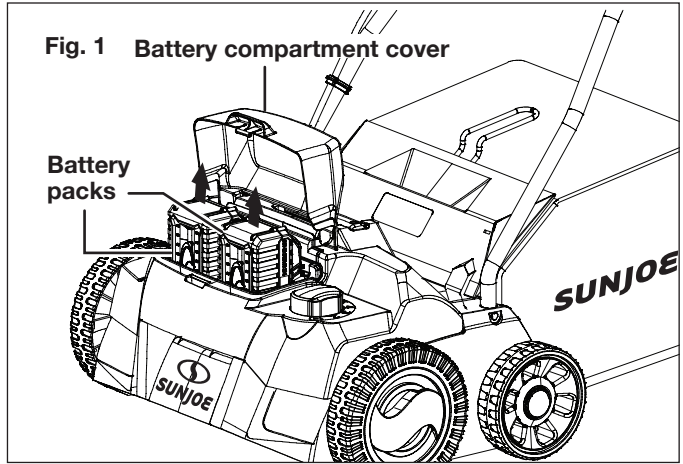

Fig. 1 Battery compartment cover
1. Open the battery compartment cover, and push the push lock buttons on the batteries to pull the battery packs out from the battery compartment (Fig. 1).